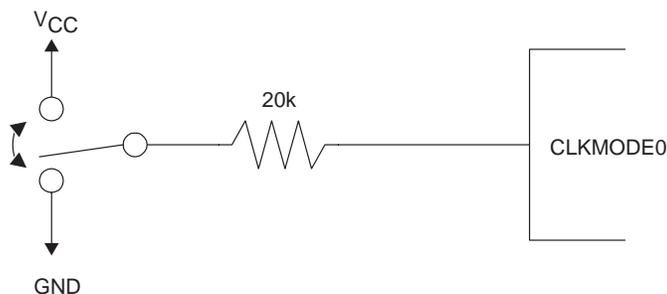

Figure 3. TMS320C6000 Configuration Layout
- Specific devices from the C6000 platform may also have additional configuration signals available. Figure 3 shows the desired pullup/pulldown connection of a configuration pin.